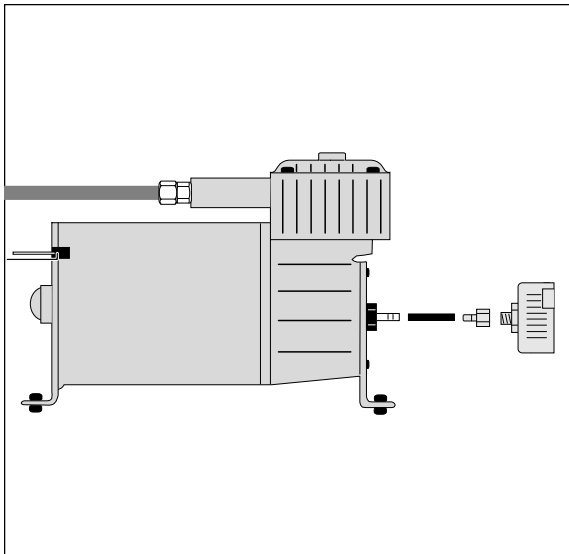

Figure 3
6. Push the hose over the inlet port of the compressor. Assemble and install the air filter to the other end of the hose (Figure 3).